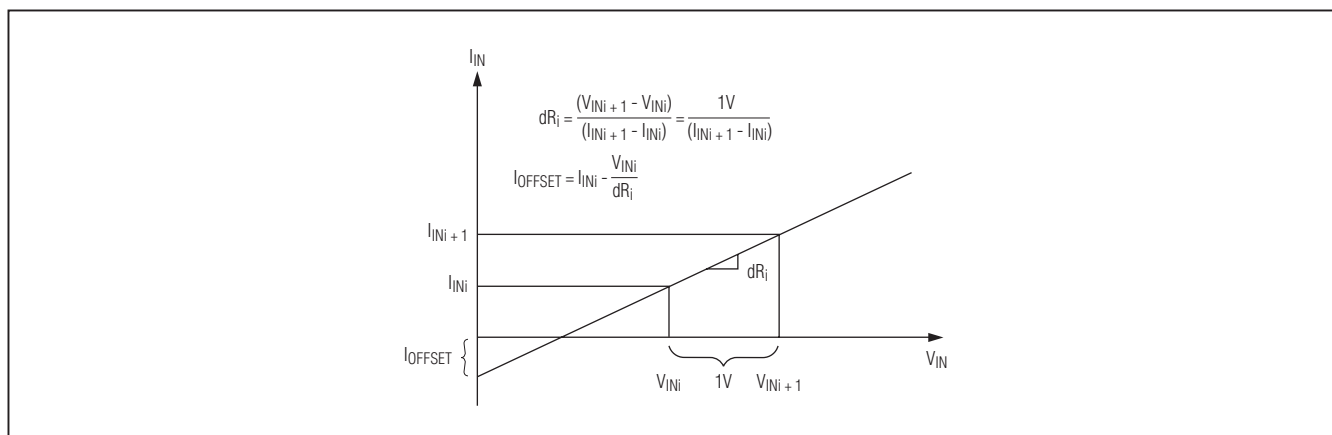

Figure 1. Effective Differential Input Resistance/Offset Current
**Note 4:** The input offset current is illustrated in Figure 1.
**Note 5:** Effective differential input resistance is defined as the differential resistance between  $V_{DD}$  and  $V_{SS}$ . See Figure 1.